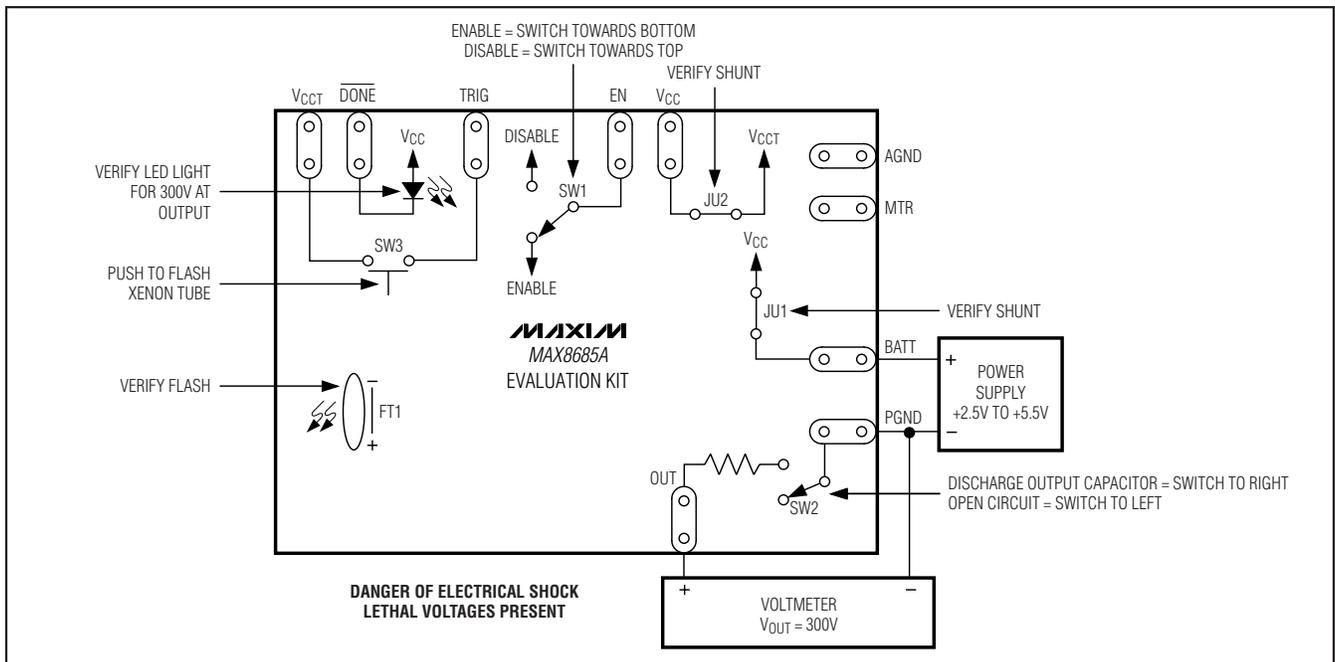

Figure 1. Test Procedure Setup for MAX8685A EV Kit
- 1) Before connecting the EV kit, verify that the output capacitor is discharged. To discharge the output capacitor, set SW2 to the discharge position (Figure 1). Wait at least 30 seconds before proceeding.
- 10) Set SW2 to the open position (Figure 1) to disconnect the discharge resistors.
- 1) Set SW1 to the upward position (Figure 1) to disable the IC.
- 3) Set SW2 to the discharge position (Figure 1).